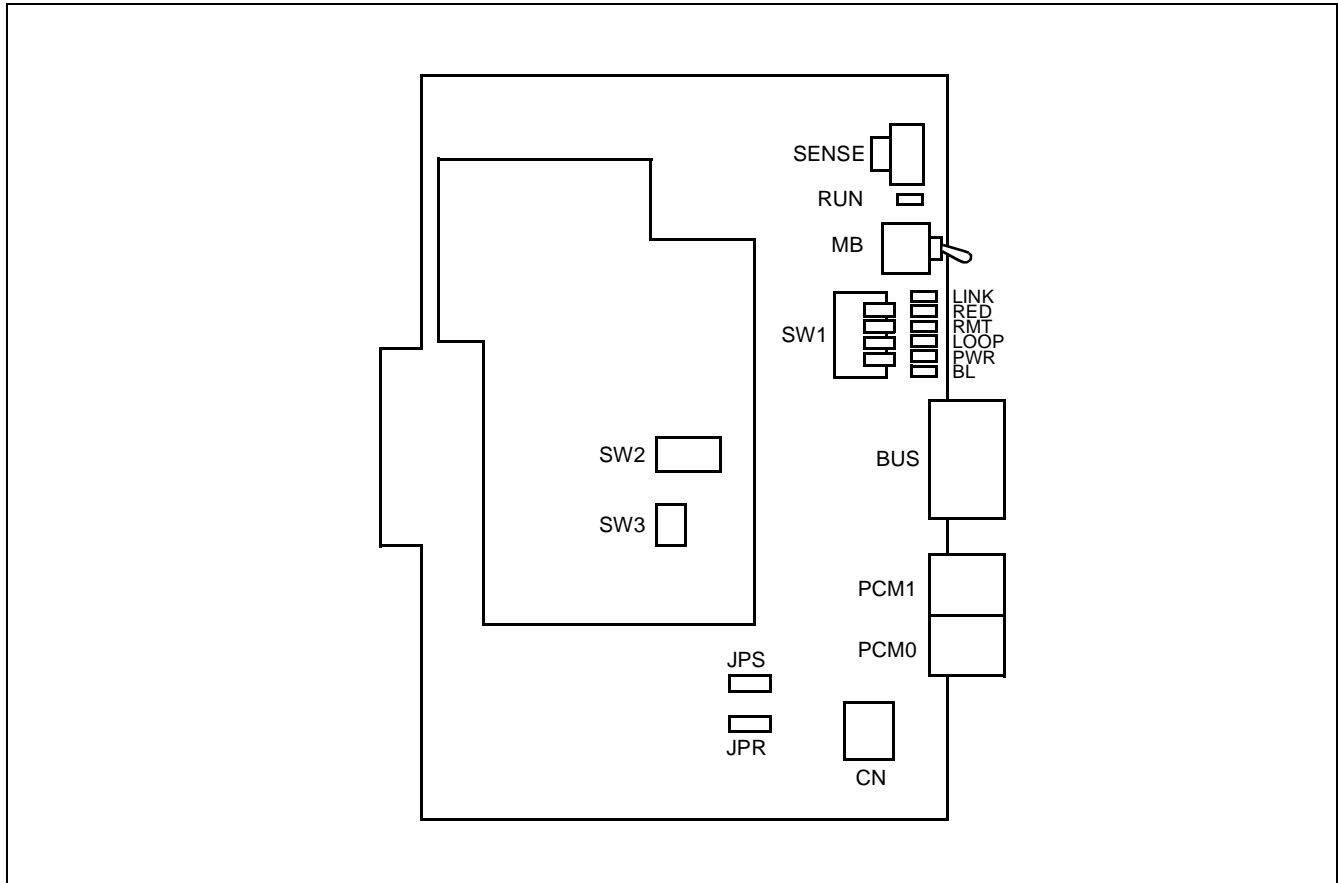

Figure 3-5 PN-DAIA Card
- (1) Location of Lamps, Switches, and Connectors (see Figure 3-5)